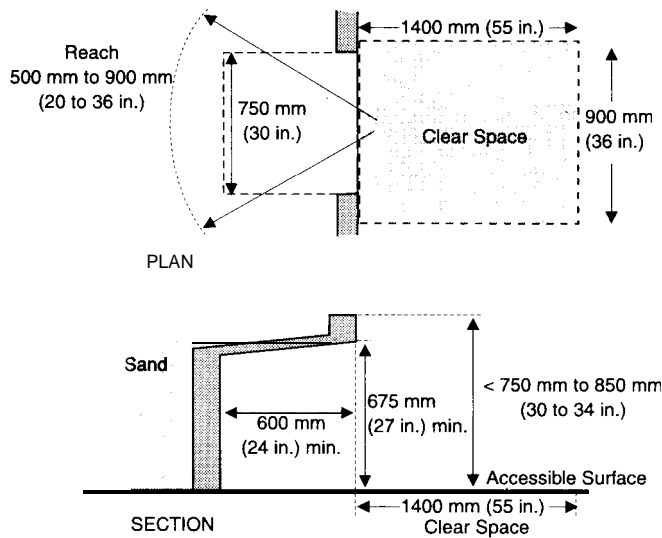

Figure 10-24. Accessible Sand Table
(1) *Ages to 12 Years.* For wheelchair use, the playing surface should not be greater than 750 to 850 mm (30 to 34 inches) high, with a forward reach and side reach of 500 to 900 mm (20 to 36 inches) (fig 10-24). A clear ground space 900 mm by 1400